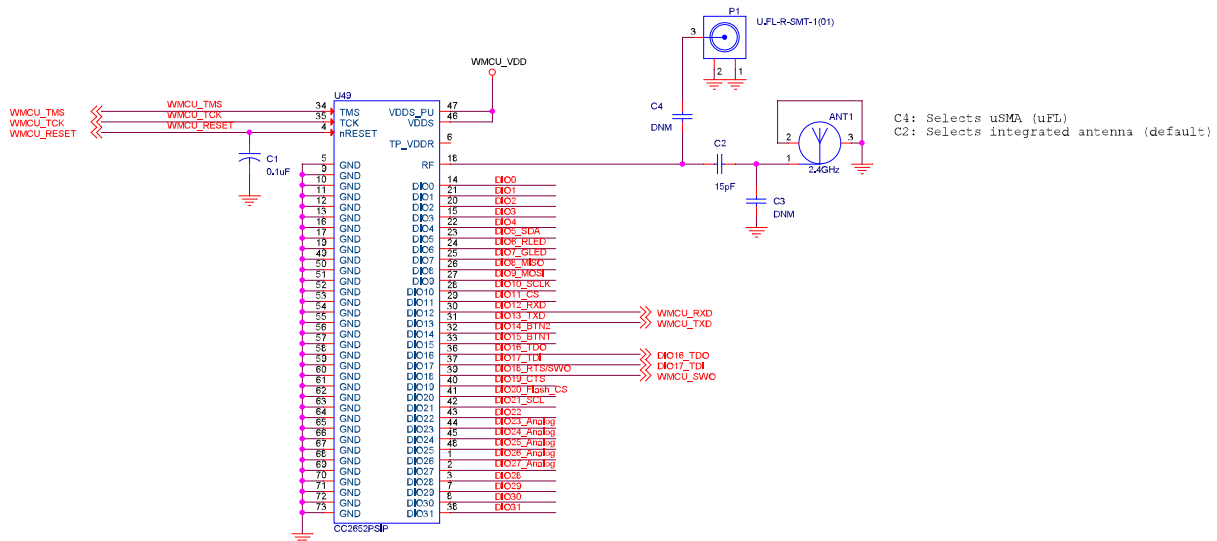

Figure 10-1. CC2652PSIP Typical Application Schematic
Figure 10-1 shows the typical application schematic using the CC2652PSIP module. For the full reference schematic, download the LP-CC2652PSIP Design Files.
Table 10-1 provides the bill of materials for a typical application using the CC2652PSIP module in Figure 10-1.
In order to meet the module power-on-reset requirements, an external 0.1 μ F capacitor is required on the nRESET pin during power ON. In addition, VDD5 (Pin 46) and VDD5_PU (Pin 47) should be connected together. If the reset signal is not based upon a power-on-reset and is derived from an external MCU, then the external capacitor will not be needed and VDD5_PU (Pin 47) should be No Connect (NC). Please refer to Figure 10-1 for the recommended circuit implementation and Table 10-1 for the recommended 0.1 μ F capacitor.